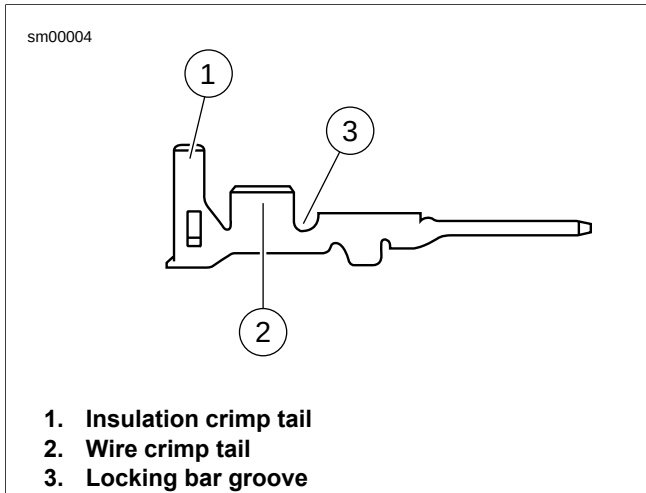
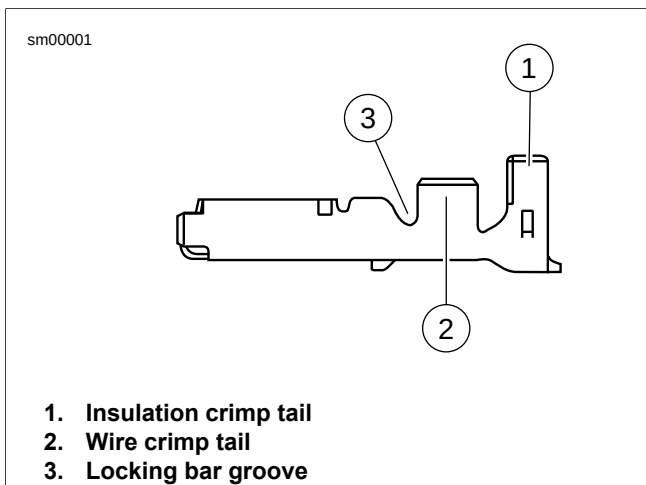

Figure A-61. Tyco 070 Multilock Unsealed Connector: Pin Terminal
Figure A-62. Tyco 070 Multilock Unsealed Connector: Socket Terminal
2. See Figure A-61 and Figure A-62. Select the pin/socket terminals from the parts catalog and identify the insulation crimp tails (1) and the wire crimp tails (2) and the groove for the crimp tool locking bar (3).
See Figure A-61 and Figure A-62. Hold the terminal with the insulation crimp tail (1) facing up. The tool will hold the terminal by the locking bar groove (3) and simultaneously crimp around the stripped lead and the insulation.